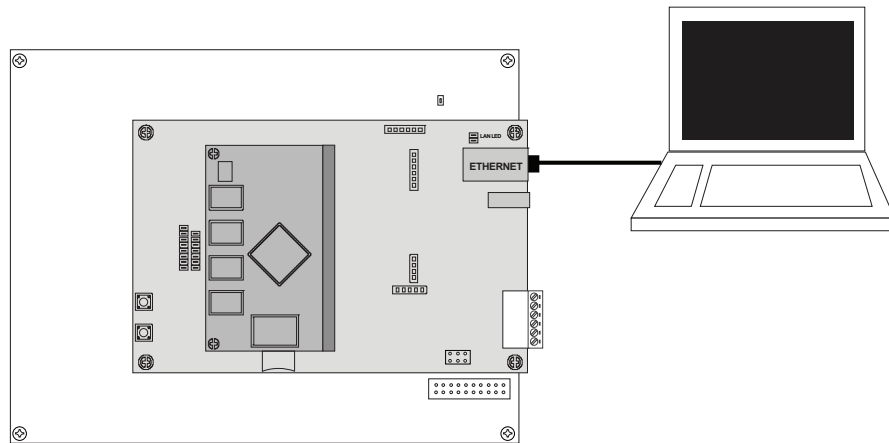

Figure 7.1. Connecting to the Control Panel
1. Connect your programming computer directly to the Ethernet port of the controller as shown in Figure 7.1. A standard Ethernet may be used for the direct connection - crossover is not required. (You may also connect the computer and controller to an Ethernet Switch.) A standard Ethernet may be used for the direct connection - crossover is not required.